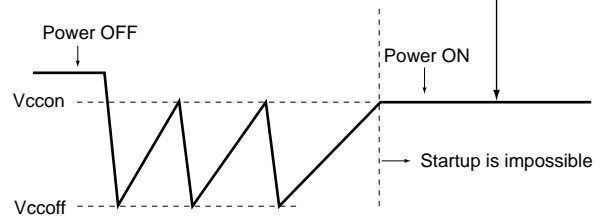

Fig. 22 Image of Vcc waveform when re-startup is impossible
After power-off, once VCC falls down below OFF threshold voltage, VCC rises up again and re-startup occurs while the capacitor C1 is discharged until approximately zero because VCC voltage rises up by the current flowing RA. This operation is repeated several times. After the repeated operation, IC stops in the condition that VCC voltage is equal to VCCON (=ON threshold) because capacitor C1 is discharged gradually and the decreased VCC inclination is out of the condition required by equation (4). After that, re-startup by power-on can not be guaranteed even when equation (8) is satisfied. The image of that the startup is impossible is shown in Fig. 22. It is necessary to startup IC that supply current Icc (startup) to VCC is over 4mA in the condition of Tj < 100 °C during Vcc is kept at VCCON(≈16V, balance state at VCCON after the repeated operation.